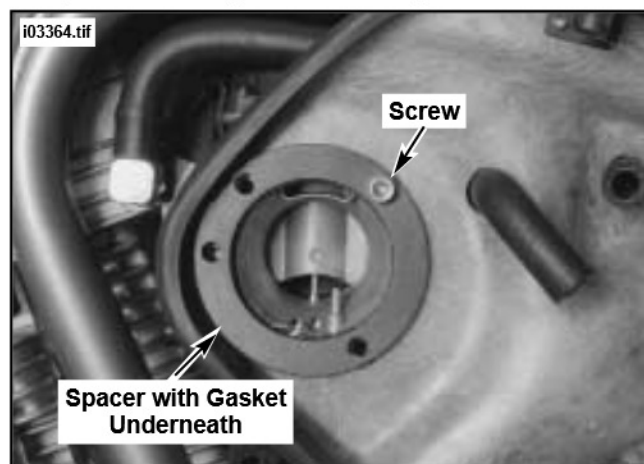

Figure 4. Remove Screw securing Spacer and Gasket
6. See Figure 4. Remove screw securing spacer and gasket. Discard gasket but save spacer and screw.